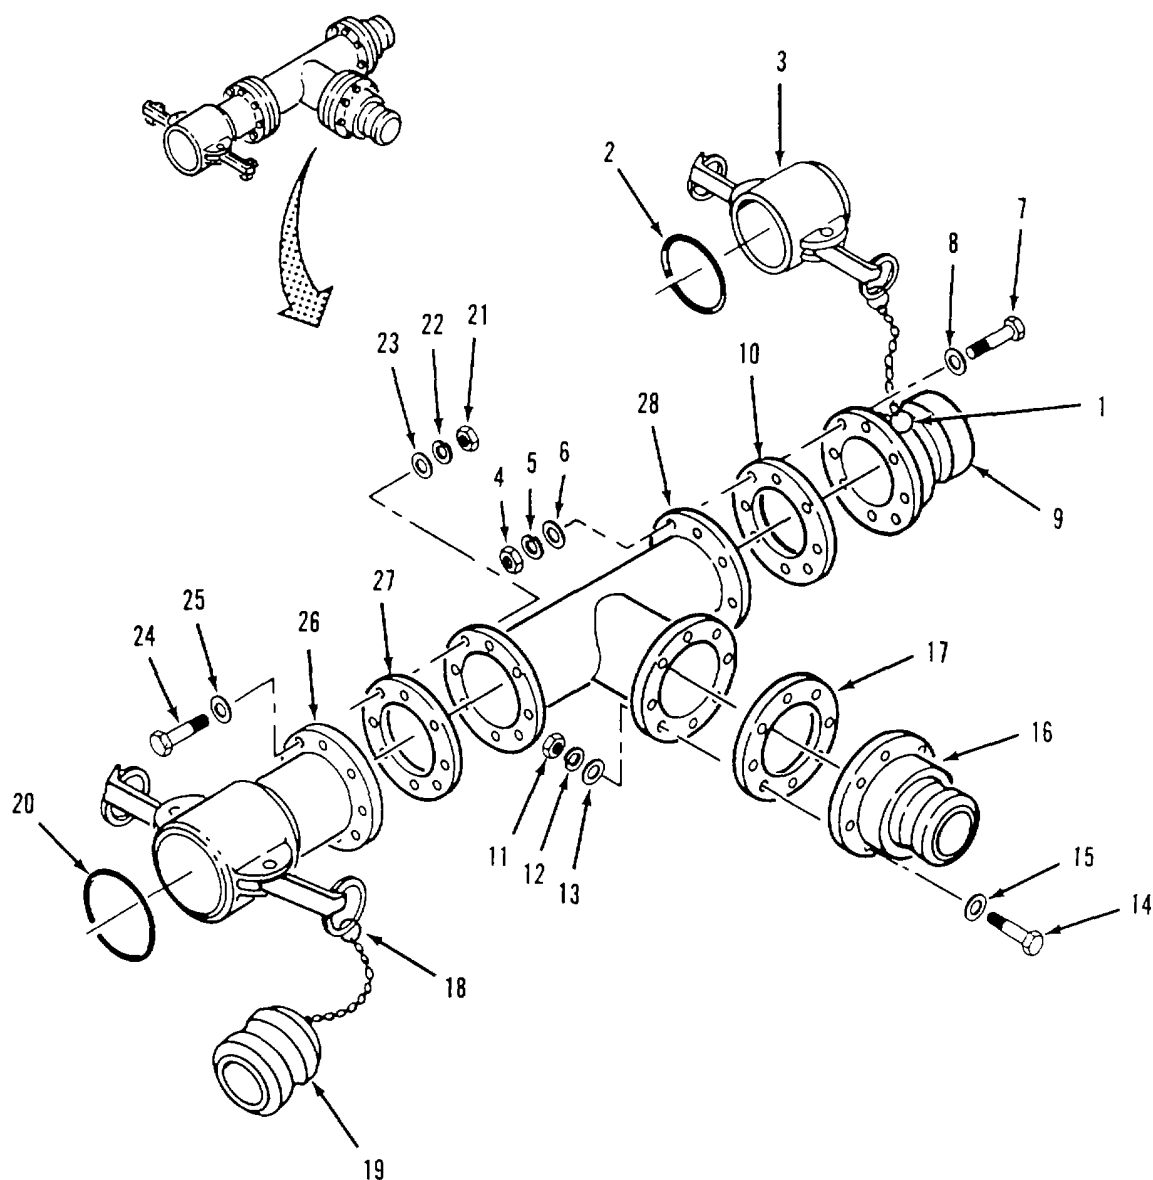

Figure 4-40. Tee Assembly (9115-Y1) Disassembly.
a. Disassembly. Refer to figure 4-40.
- (1) Disconnect ring (1) from male coupling (9) and remove cap (3).
- (2) Remove gasket (2) from cap (3).
- (3) Remove eight nuts (4), lockwashers (5), flat washers (6) and screws (7) and flat washers (8).
- (4) Separate male coupling (9) and gasket (10) from tee (28).
- (5) Remove eight nuts (11), lockwashers (12), flat washers (13), screws (14) and flat washers (15).
- (6) Separate male coupling (16) and gasket (17) from tee (28).
- (8) Disconnect ring (18) from female coupling (26) and remove plug (19).
- (9) Remove gasket (20) from female coupling (26).
- (10) Remove eight nuts (21), lockwashers (22), flat washers (23) and screws (24) and flat washers (25).
- (11) Separate female coupling (26) and gasket (27) from tee (28).